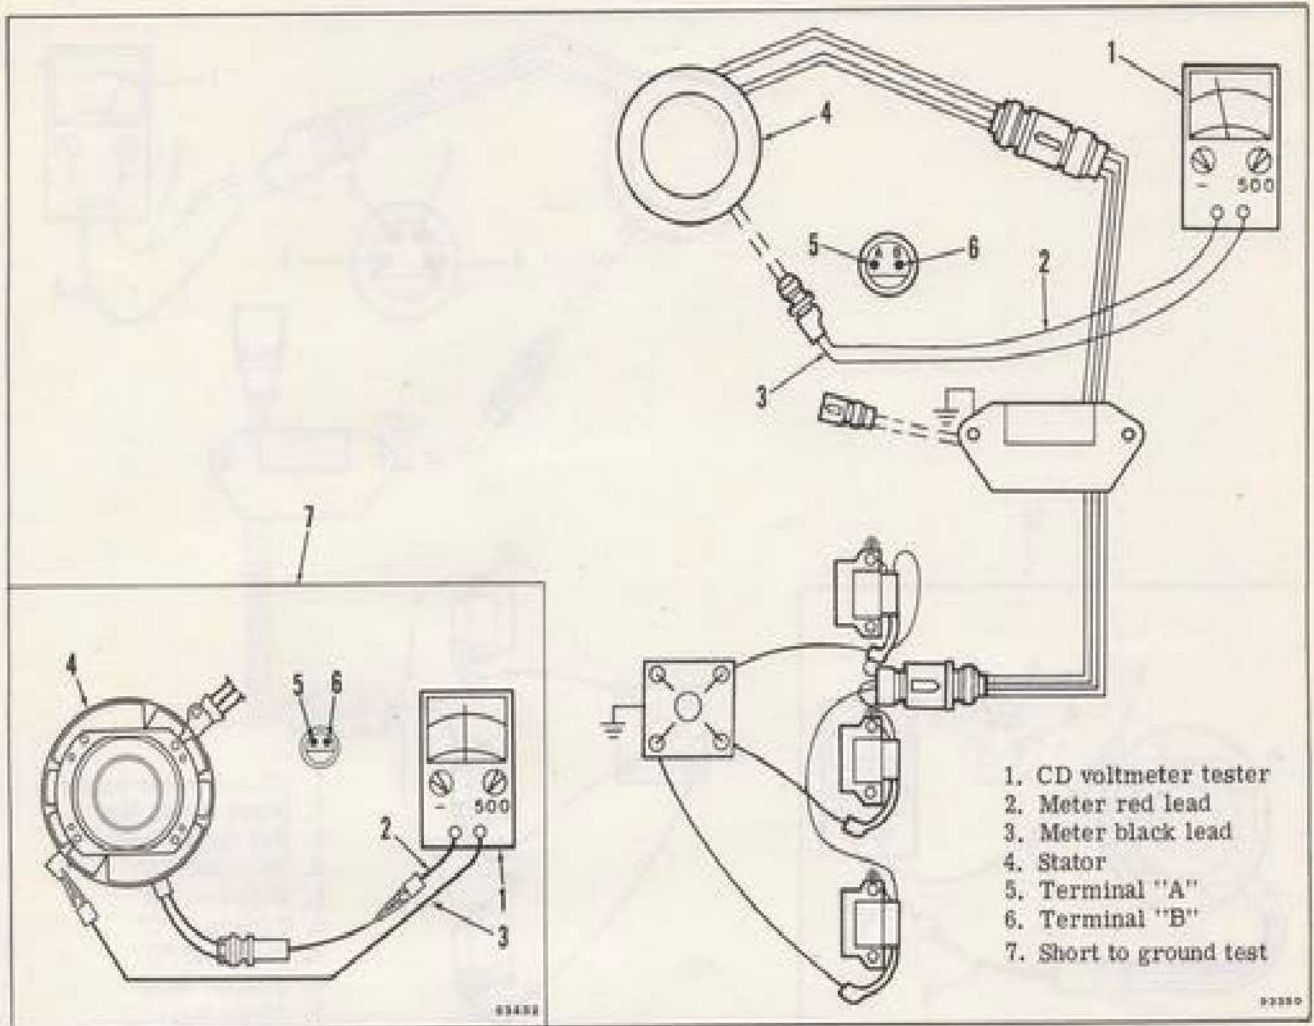

Figure 4-27. Charge Coil Output Test
- c. To test for shorts to ground, set meter switches to (-) 500 scale. Connect the black meter lead (-) to the timer base (ground). Attach the red meter lead (+) to the "A" terminal jumper wire in the connector. See Figure 4-27. Observe the meter. Then move red lead to "B" terminal.
- e. To check charge coil output, insert meter black lead probe into cavity "A" of connector from stator. Insert meter red lead probe into cavity "B" of connector. See Figure 4-27.